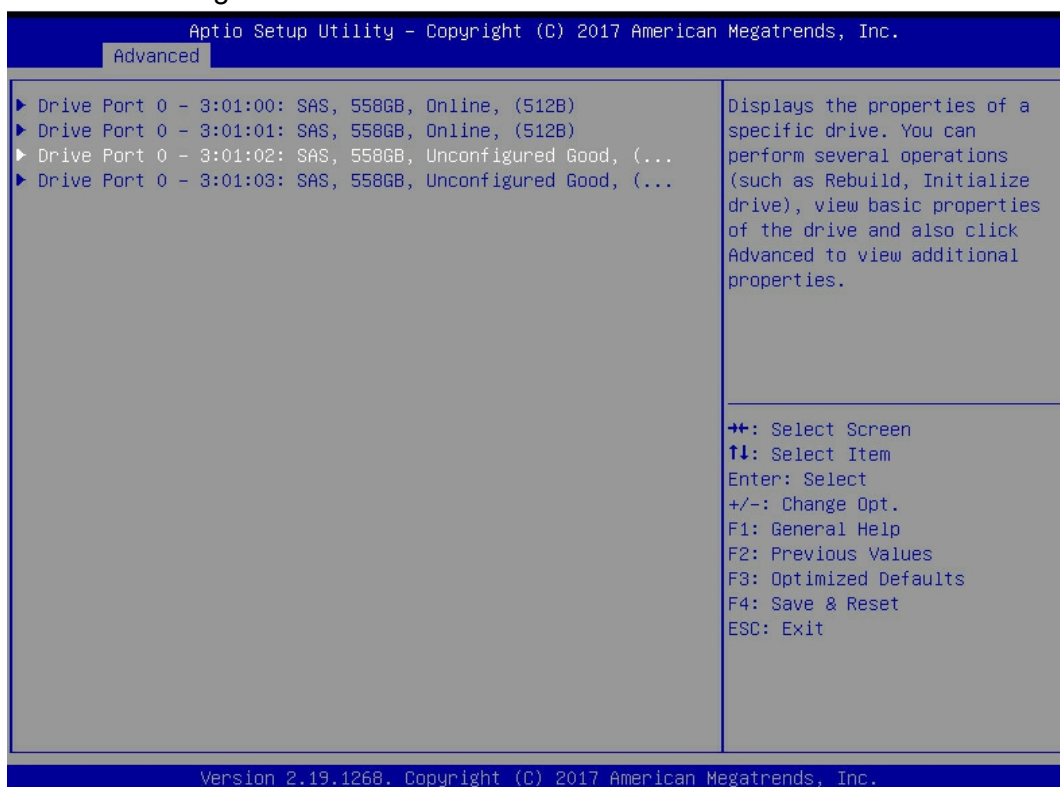

Figure 6-44
b) Enter the interface shown in figure 6-44, select the disk to be configured as global hot spare, and press enter.
✧ Figure 6-44 drive management interface